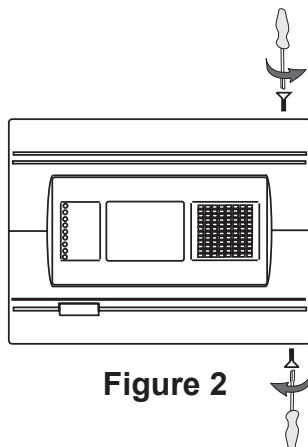

Figure 2
- Unscrew the two secret bolts situated above and under the box cover - see Figure 2.